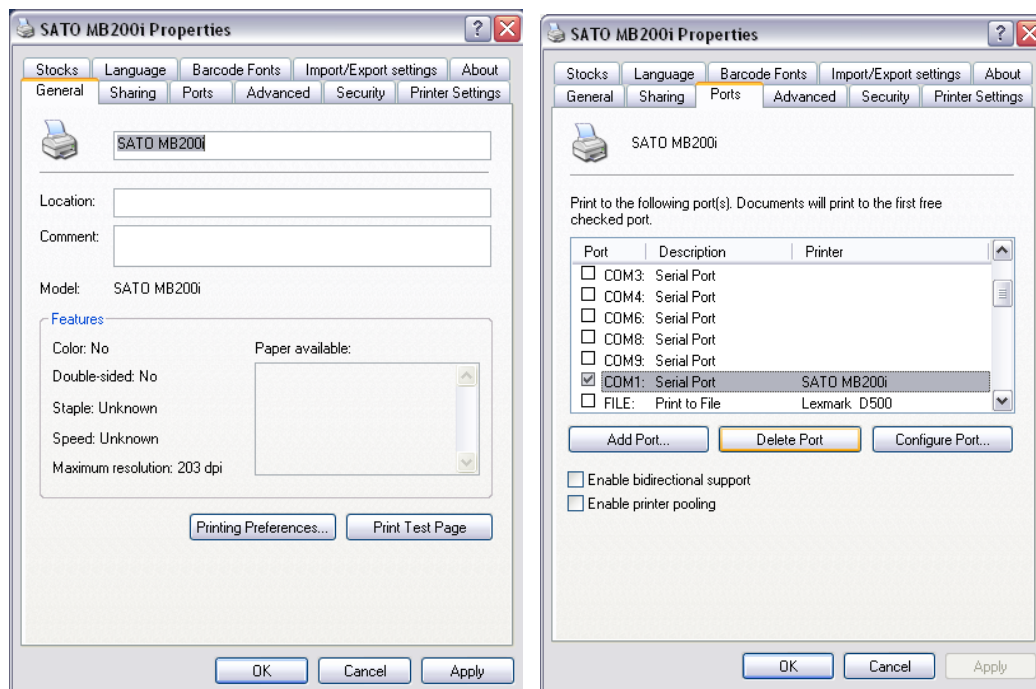

Figure 3-12a/b, Ports
2. When SATO MB200i Properties screen (Figure 3-12a) appears, select Ports tab.